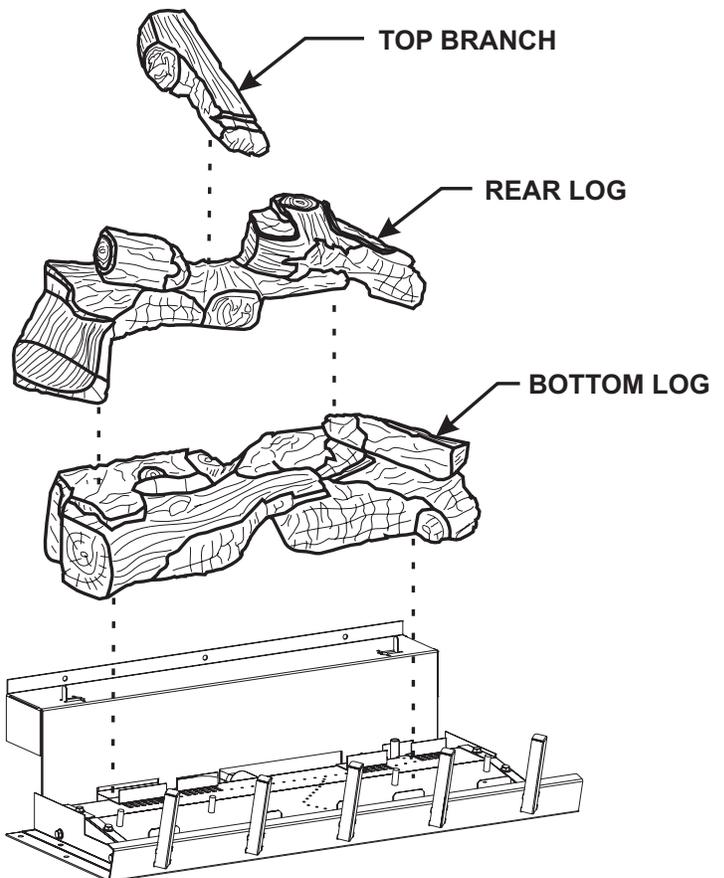
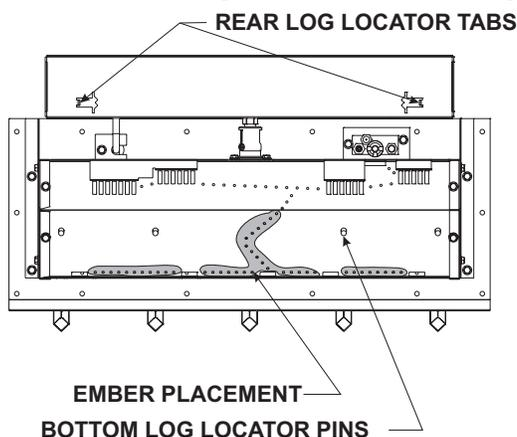

Figure 49
Figure 48A
The positioning of logs is critical to safe and clean operation of this fireplace. Sooting and other problems may result if the logs are not properly and firmly positioned in the firebox. Please refer to **Figure 48A**, **Figure 48B**, and **Figure 49** and corresponding WARNING, when completing the following log placement steps.
Attention: Do not use Figure 48B or Figure 49 to order logs. Refer to parts view on page 45 and parts list on page 46 to order logs and/or ember material for your appropriate fireplace model.
8. After all logs are properly positioned, place small "dime" size pieces of Rockwool lightly across the front round "blueflame" ports. Place the ember material (Rockwool pieces) side by side. Do not stack more than one layer of embers across the burner ports. See Figure 48A.